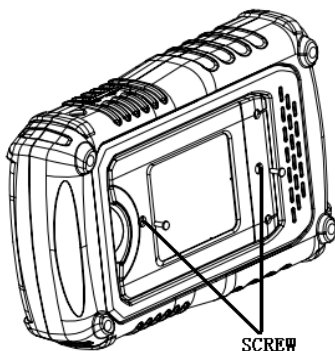

Figure 1
1. Dismantle the two screws of the battery cap by using a screwdriver, as figure 1 shows.